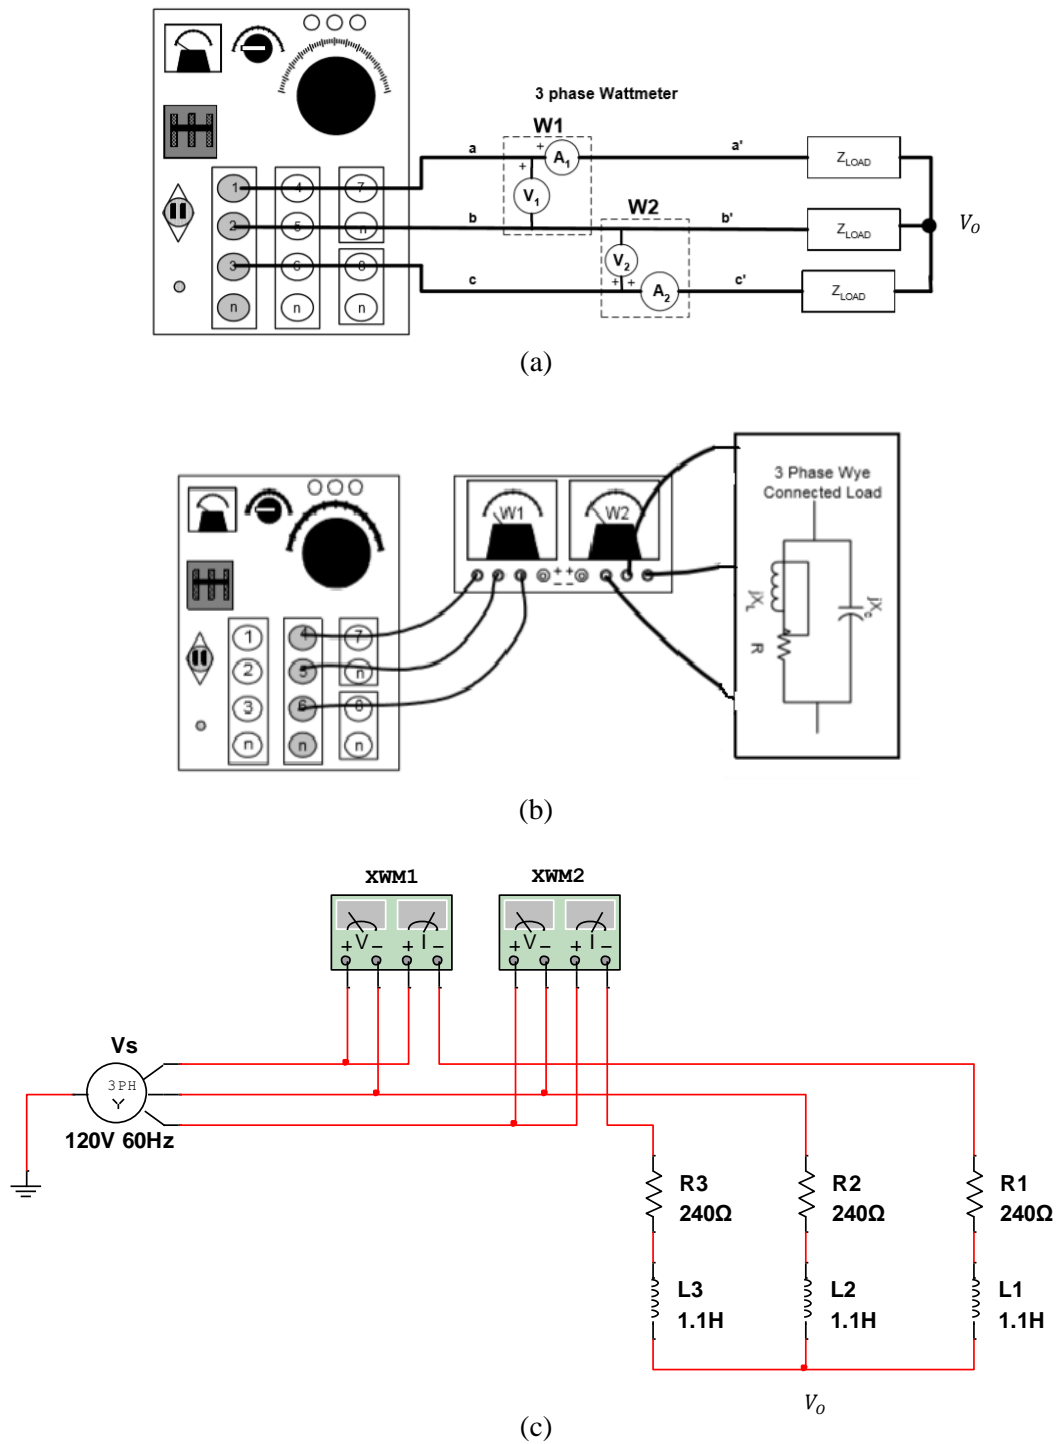

Figure 1: Connection diagram of the two-wattmeter method.
2. Connect the circuit as shown in Figure 1. To create the Multisim circuit, place the following components and instruments on your workspace and connect them as shown in Figure 1c: